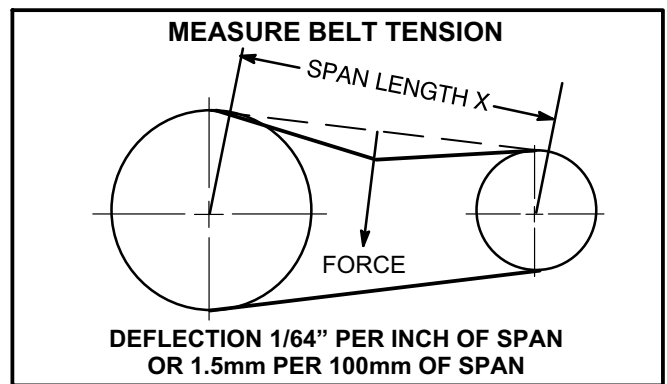

FIGURE 23
- 1- Measure span length X. See figure 23.
- 2- Apply perpendicular force to center of span (X) with enough pressure to deflect belt 1/64" for every inch of span length or 1.5mm per 100mm of span length.